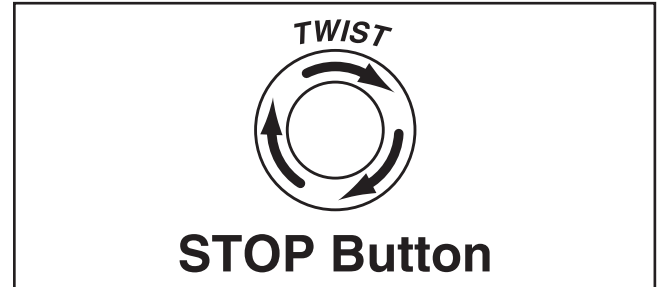

Figure 10. Resetting the switch.
4. Twist Emergency Stop button clockwise until it pops out—this resets the switch so the machine can be started (see **Figure 10**).